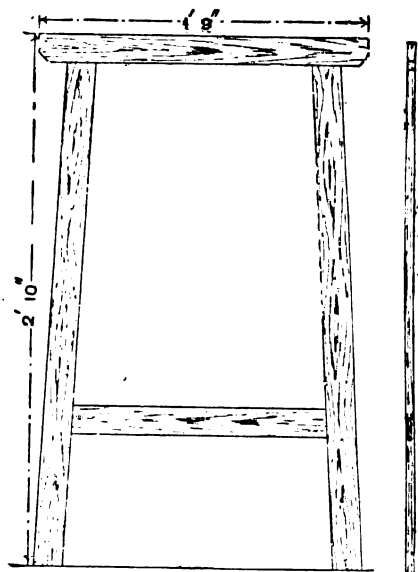
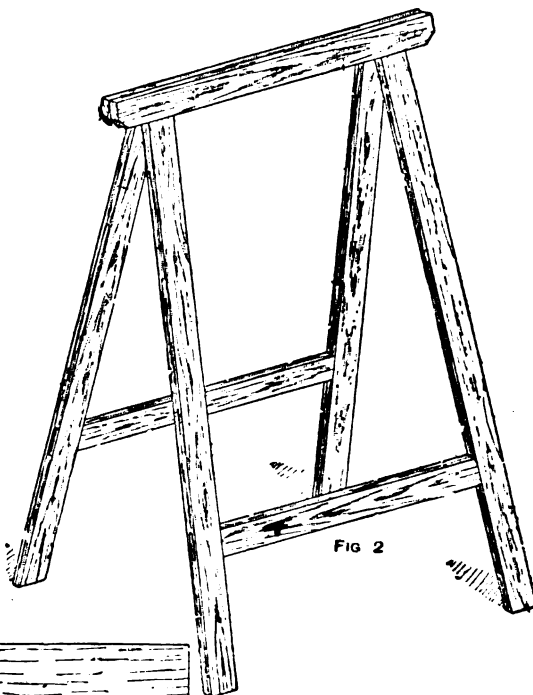

FIG. 1
FIG. 2
the lock is shown in Fig. 4, A B C D being the plan of the lock. The a, b, and c parts of this pattern must be arranged so that when they are bent and soldered in position, the edges will be flush with the highest part of the lock. Solder the lock in the box, cut the keyhole B (Fig. 1), and solder the box in position. Fig. 5 is a pattern for the box which will be required for the top part of the lock, the parts a, b, and c being as wide as the top plate of the lock. Bend these parts square, and solder the corners from the inside. Fix the box to the lid, and the top plate to the box. The following is a satisfactory method. Lay a piece of brown paper over the lock, push the eyes of the top plate through the paper so that the lock will answer freely to the key, and place a body of solder on the top plate and on the box. Let the fastening be unlocked, and with a hot iron melt simultaneously the two bodies of solder, and instantly bring the lid down and turn the key. When the metal is cool, the box can be unlocked and the soldering completed with a cooler iron. On completion the box can be cleaned thoroughly, and it can then be enamelled to any colour desired.
**Trestles and Board for Paperhanger.**—Fig. 1 is an elevation and edge view of one portion of a paperhanger's trestle; Fig. 2 is a general view of the complete trestle. The trestles should be made of about 1½-in. by 4-in.